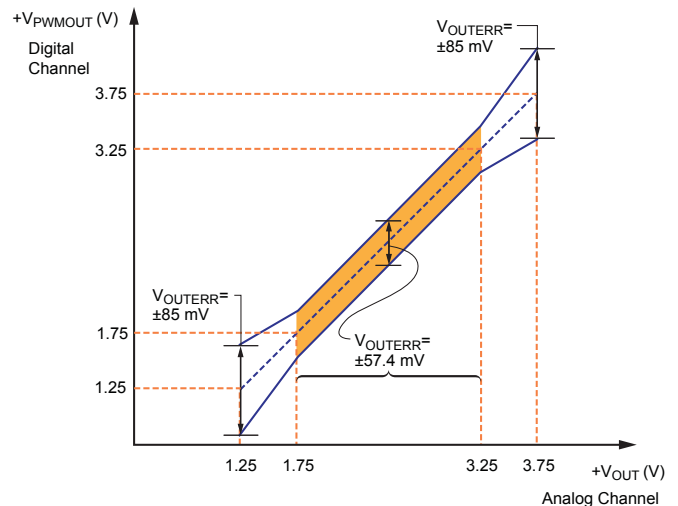

Figure 6. Definition of PWM to Analog Output Mismatch, V_{OUTERR}
$D_{(Q)}$ is the quiescent PWM signal with no input field ($B = 0$ G), and $D_{(field)}$ is the PWM signal in response to the input magnetic field. In other words, the product of PWM sensitivity (%D/G) and input magnetic field (G). (See figure 6.)